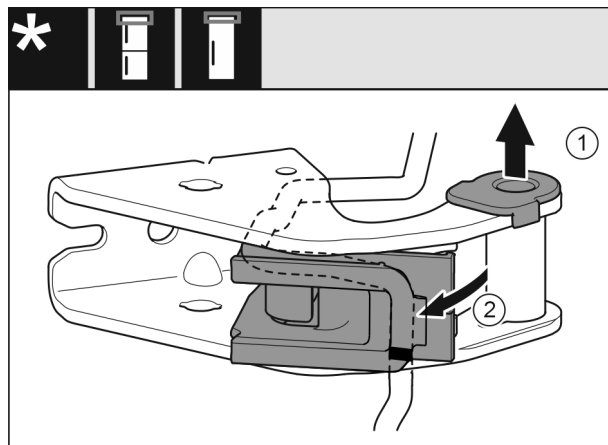

Fig. 26
- Pull the bearing bush out of the guide. *Fig. 26 (1)*
- Swing the cable holder out. *Fig. 26 (2)*